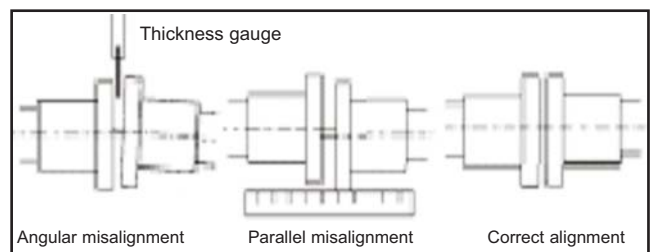

Figure 7- Coupling alignment
1. Coupling angular and parallel alignment MUST be maintained in accordance with coupling manufacturer's instructions ; See figure 7.